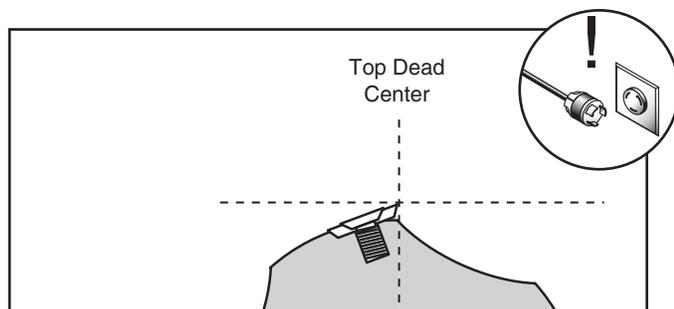

Figure 33. Cutterhead insert at top-dead-center.
3. Place a straightedge on the outfeed table so it extends over the cutterhead and rotate the cutterhead pulley until one of the carbide inserts is at top-dead-center (TDC), as shown in **Figure 33**.